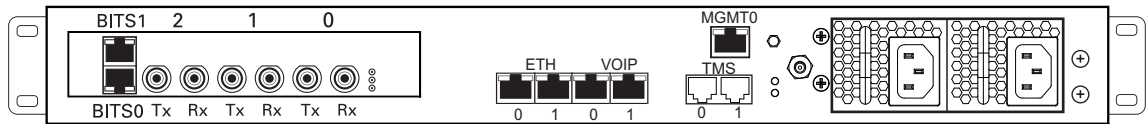

Figure 2.5 3200-DS3 Interface to the PSTN
A 3200-DS3 with 3 sets of BNC connectors enables the connection to DS3 lines. See figure 2.5 on page 20.
1. Start with the Dual BNC port pair #0 (right-most) as shown in figure 2.5 on page 20. Connect one pair of BNC cables between this port and the DS3 line.